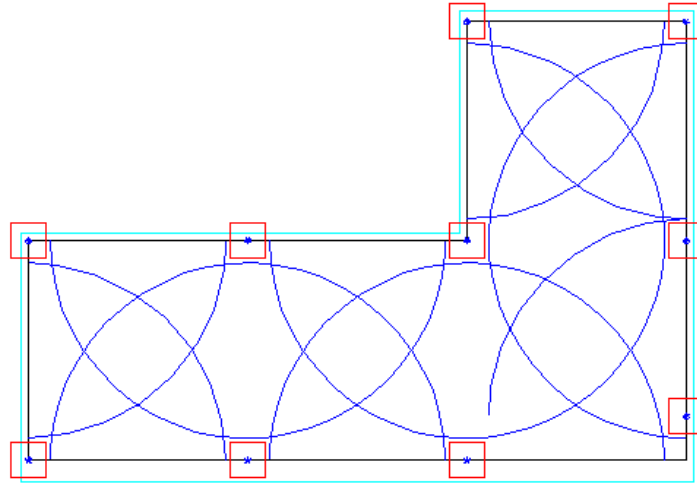

Figure 4-19
5. Draw the Autohead lasso around the inside border of the polygon. To close the lasso *Right-click/Close*. Once the polygon has been closed it will be filled with sprinklers. See Figure 4-19. (Note: if the *Area* lasso is on the polygon boundary and so is the *Autohead* lasso, you may find that some arcs do not orientate inside the area. Simply move the sprinkler by selecting *Modify/Select Object* and then *Modify/Move* and move the sprinkler slightly inside the boundary and left-click to place. This method can also be used for moving any sprinkler to a more appropriate place.)